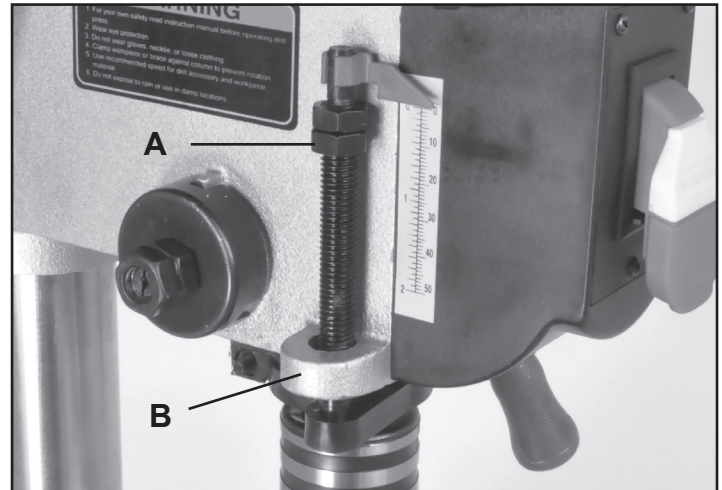

FIG. 7
7. **DEPTH STOP:** The depth stop and scale are found on the left side of the on/off switch. To adjust, lower the drill chuck until the pointer shows your desired depth on the scale. Loosen the lower nut on the threaded shaft (FIG. 7, A) until it bottoms out on the head casting (B). Tighten the upper nut against the lower nut to retain the adjustment.